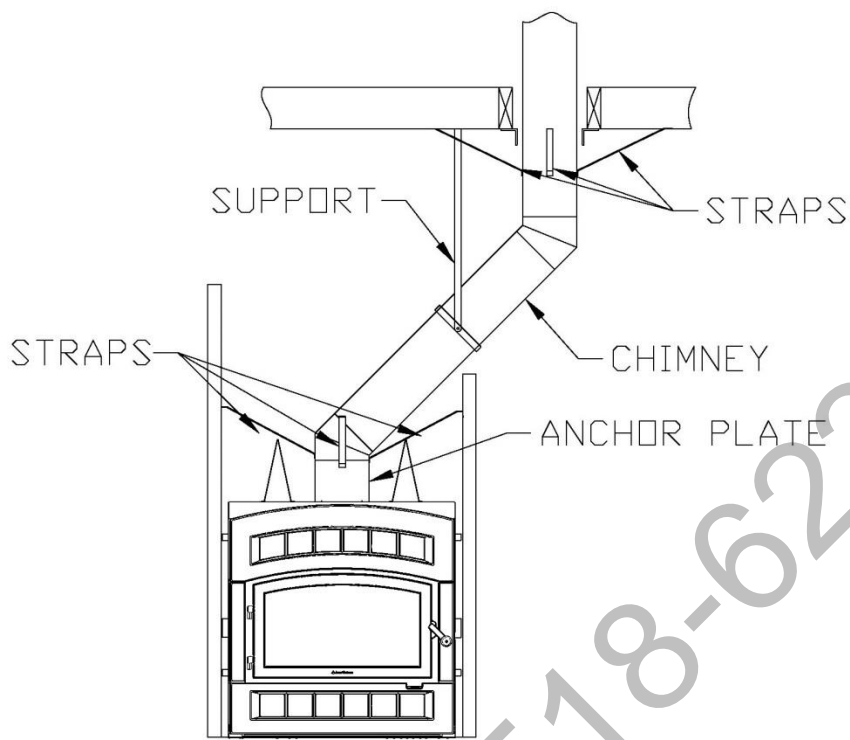

Figure 45
1. Install the first elbow; turn it in the required direction. Secure it to the chimney according to the chimney manufacturer's instructions. In many cases, it is recommended to secure connections with three (3) ½" (12 mm) metal screws.
2. Install the necessary chimney lengths to achieve the required offset. Lock the chimney lengths together according to the chimney manufacturer's instructions. In many cases, it is recommended to use three (3) ½" (12 mm) screws. If the offset length is made of two (2) chimney lengths or more, many chimney manufacturers may require that you use an offset or roof support halfway up the offset. If penetrating a wall, install a wall radiation shield supplied by the chimney manufacturer (see figures 45 & 46).